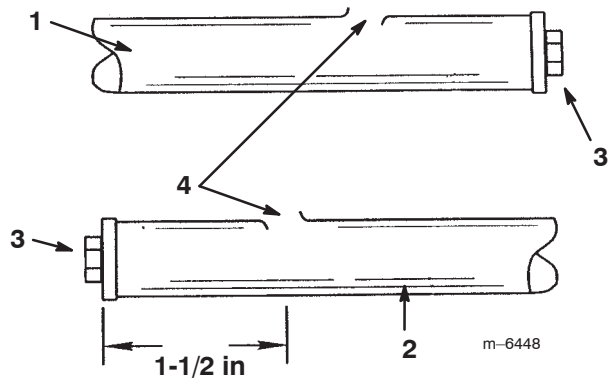

Figure 31
1. Locate, mark, and drill (through the top surface only) a hole (5/8 inch dia) 1-1/2 inch from the plugged end of the right boom pipe (Fig. 31).
3. Use a round file or deburring tool to deburr the holes you drilled in the boom pipes (Fig. 31).
4. Insert a drift punch into the 5/8 inch holes in the boom pipes and distort the openings as shown in Figure 31.